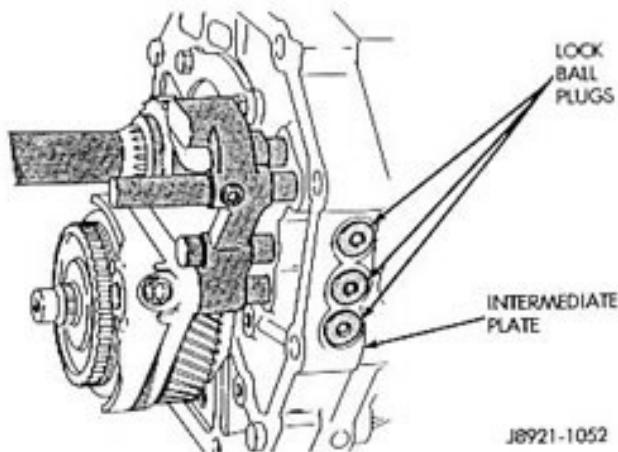

Fig. 22 Lock Ball Plug Locations
- (1) Remove the three lock ball plugs from the intermediate plate (Fig. 22).